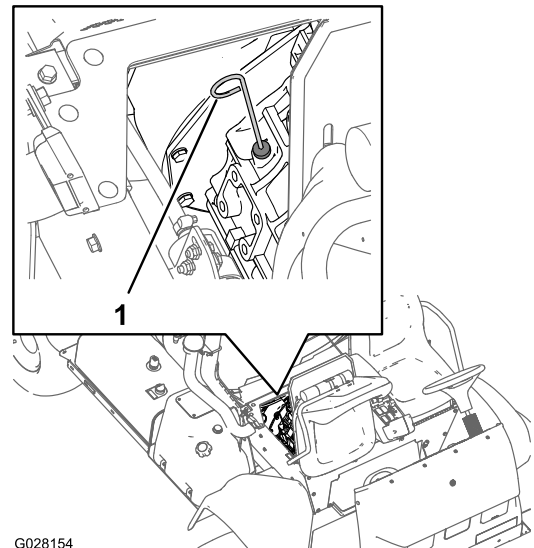

Figure 69
2. Remove the dipstick, located under the passenger seat, and wipe it with a clean rag (Figure 69).
6. Remove the dipstick and check the oil level in the engine (Figure 69).
7. Slowly add additional specified oil to bring the oil level to the FULL mark on the dipstick (Figure 69).